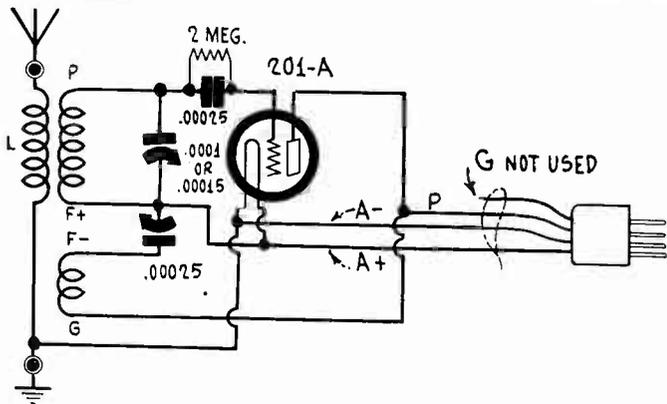
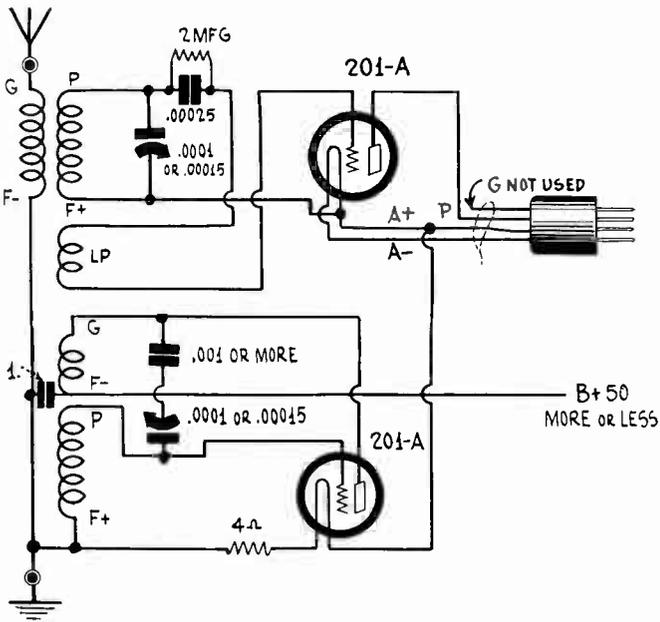
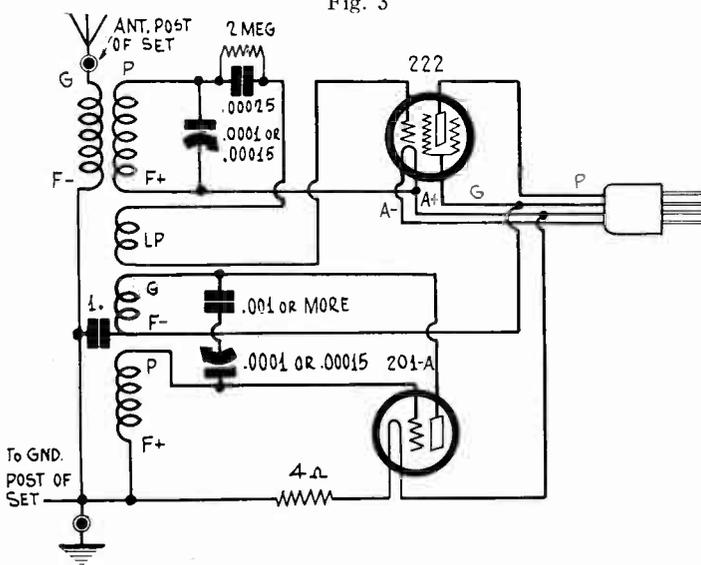

Fig. 1
Fig. 3
Fig. 4
ELEVEN different designs for short wave adapters are illustrated herewith. In Figs. 1, 2, 3, 4, 5 and 6 a plug cable is used, and the circuits are shown for AC and battery-operated filament tubes. The constants are given except for the coils. All eleven adapters use the same coils, that fit in four-prong (UX) sockets, so provide two of these sockets for each adapter. The theory of all the adapters except Figs. 1 and 2, is that a mixer is built, so that your broadcast receiver, tuned to its most sensitive frequency (usually the highest frequency, around 1,700 kc.) serves as intermediate frequency amplifier, second detector and audio amplifier. So plug into the detector socket for Figs. 1 and 2 and into the first RF socket for Figs. 3, 4, 5 and 6.
Fig. 3 is for battery sets with 201A as first RF. Plug into the first RF socket and supply about 50 volts from the B battery (45 will do) for the lead marked "B+50 more or less."
Fig. 4 is for sets having 222 screen grid tube as first RF, otherwise similar to Fig. 3.